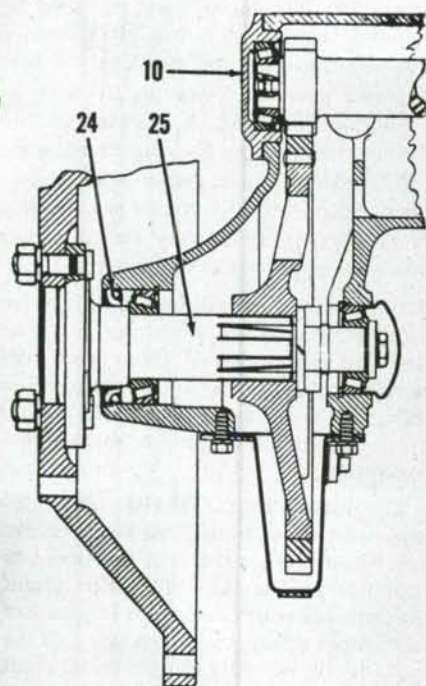

Fig. AC116—Model C details of final drive wheel axle shaft and bull gear. Bearing retainer (10) must have oil grooves when used with a twelve tooth bull pinion.
Fig. AC115—Model B final drive and brake assembly. Shims (9) control bull pinion shaft bearings adjustment. Shims (16) control wheel axle shaft bearings adjustment. Model C is similar except for differences in wheel axle shaft construction; refer to Fig. AC116.